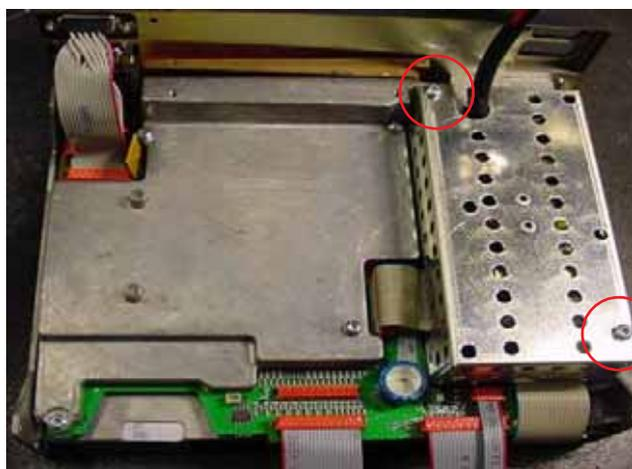

Fig. 4
- Remove the cover of the PSU by removing two (2) screws (Torx TX10) (see Fig. 4) securing the cover to the PSU chassis and carefully lift the cover from the PSU.